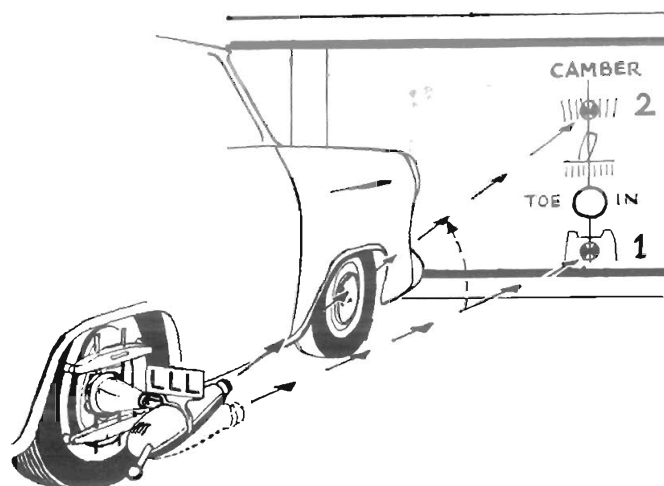

Fig. 46. Checking rear wheel camber
**Rear Wheel Camber (Fig. 46)**